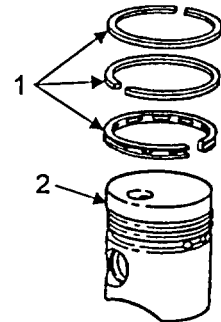

FIGURE 5-40. PISTON RINGS
- e. Remove piston ring set (Figure 5-40, Item 1) from piston (2).